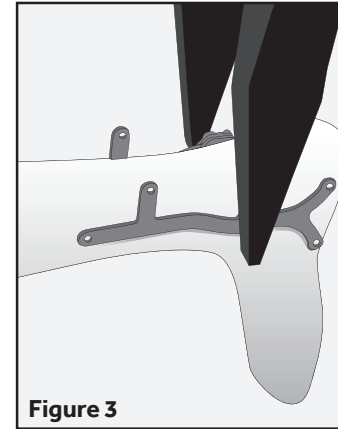

Figure 3
1. Contour proximal uprights and "AP Stabilizer Tab" to positive model. See Figure 3